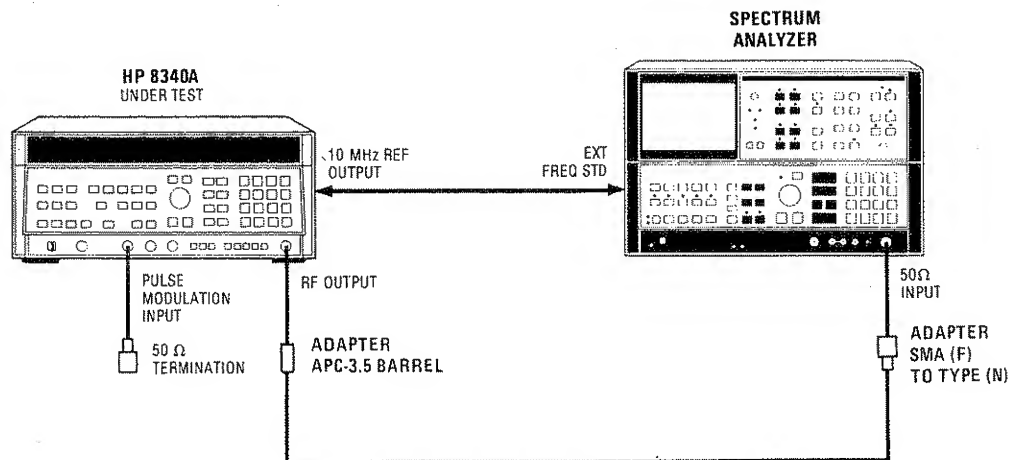

Figure 4-11. Pulse Modulation ON/OFF Ratio Test Setup
1. Connect equipment as shown in Figure 4-11. Allow at least 30 minutes warm up time.
4. Press 8340A [**PULSE**] key (ON). The spectrum analyzer marker delta amplitude level should be greater than 80 dB.